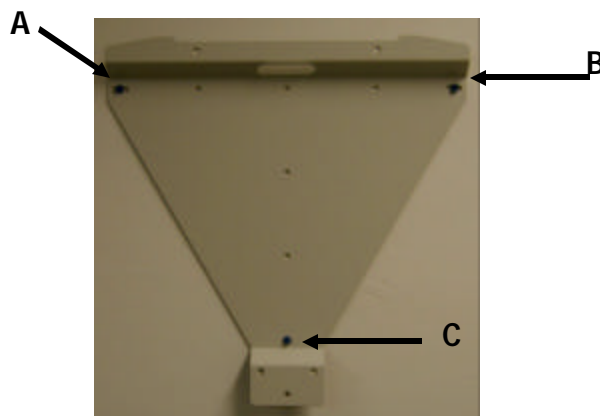

Figure 2: Mounting Bracket
1. Locate the wall studs in the desired location and align the mounting bracket over the studs. Mark the mounting holes. Ensure that locations A and B (as indicated in Figure 2 below) are aligned over the wall studs.
2. **MAKE SURE BRACKET IS LEVEL.** Ensure points A and B are aligned with wall studs. Drill 1/8" pilot holes for the screws. Use heavy-duty 1/4" x 2" coarse thread lag screws to secure points A and B to the wall. Use an 1/8" screw to secure point C. See Figure 2.